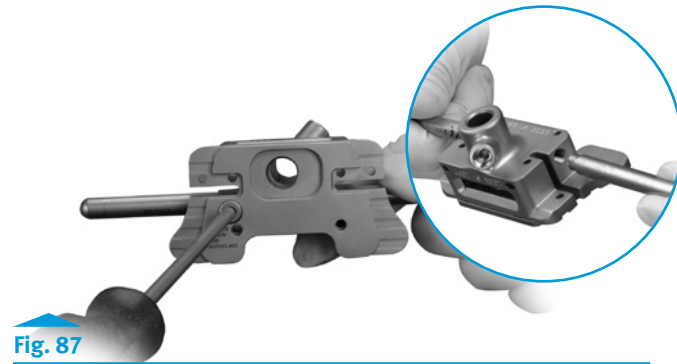

Fig. 87
- Screw the Mini Handles into the side of the appropriate (left or right) LCCK 6° Distal Femoral Guide (Fig. 87).
- Attach the Plus 1mm Cut Block to the femoral guide (Figs. 87 and 88).